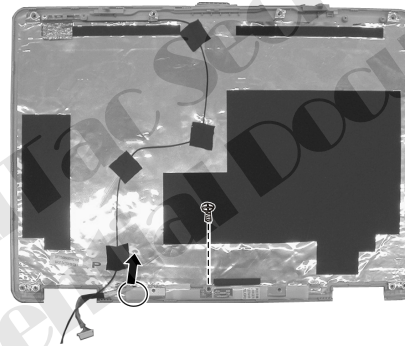

Figure 2-28 Free the inverter board
3. Remove one screw fastening the inverter board and disconnect the cable, Then free the inverter board. (Figure 2-28)